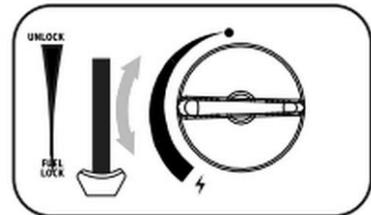

Fig. 10
3. After igniting the burner set the rotary controller (17) in the required position. (Fig. 10)